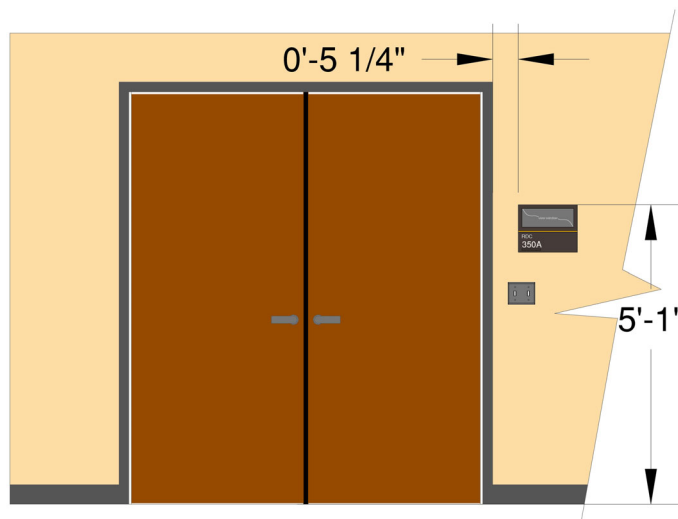

Figure 30.9
30.9. Identification sign installation, for double doors with two active leaves, shall comply with figure 30.9.